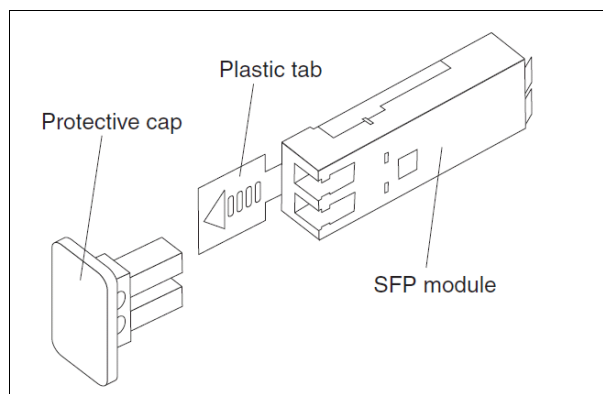

Figure 4-11 SFP module and protective cap
2. Remove the protective cap from the SFP module, as shown in Figure 4-11. Save the protective cap in a dust-free place for future use.